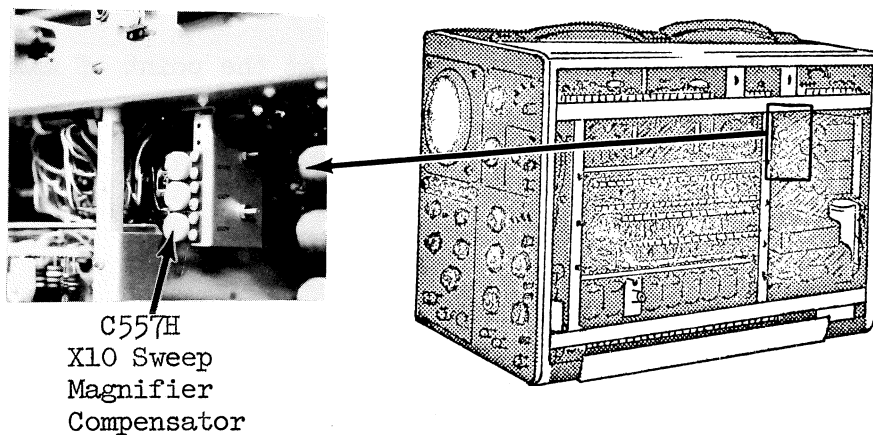

Figure 104
8. Adjust the X10 SWEEP MAGNIFIER compensator (C557H - see Fig. 104) for 1 cycle/2cm. (See Fig. 105)